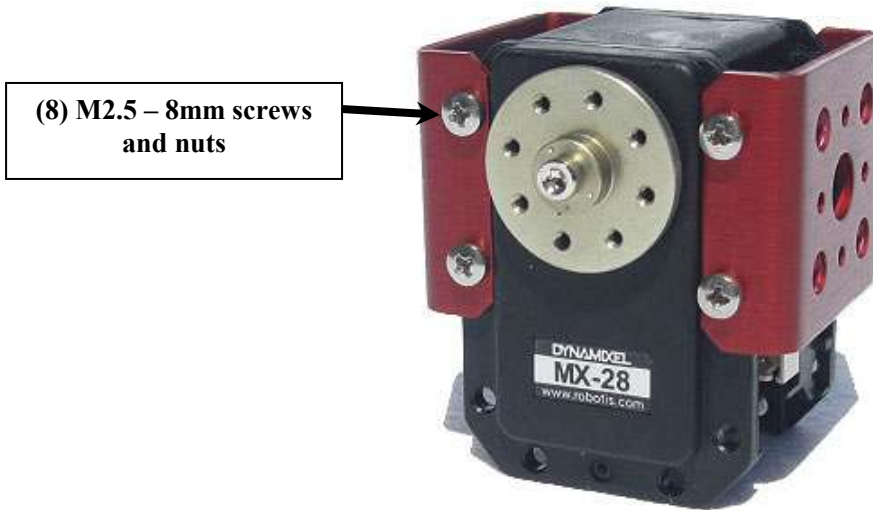

Figure 53
2. Using (8) M2.5 – 8mm screws and nuts, install the MX side bracket to the sides of the wrist rotate servo as shown in figure 53. (you may want to connect the servo connector before installing the MX-side bracket).